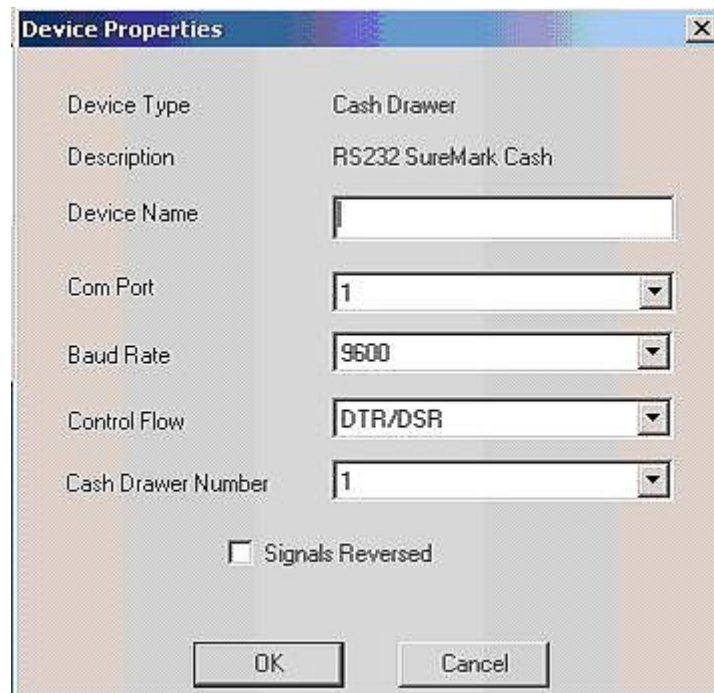

Figure 5. Device properties dialog (EIA-232)
2. Click the **Configure** button to display the configuration dialog for the selected device. The dialog differs depending on the POS Terminal type and the device type. Figure 4 on page 24 shows the configuration dialog for an RS-485 or USB device; Figure 5 on page 25 shows the configuration dialog for an EIA-232 device.
For EIA-232, select the correct Com Port, Baud Rate, and Flow Control for the device (See Figure 5 on page 25).